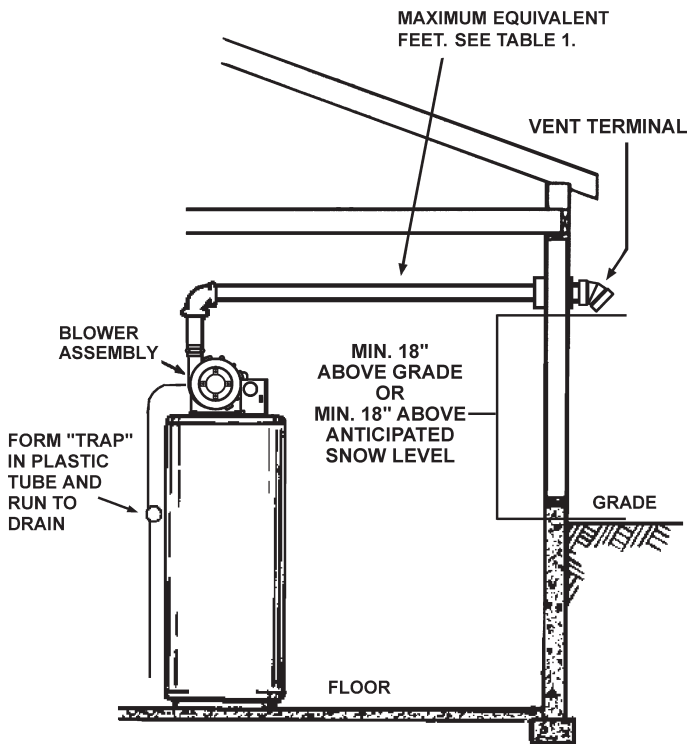
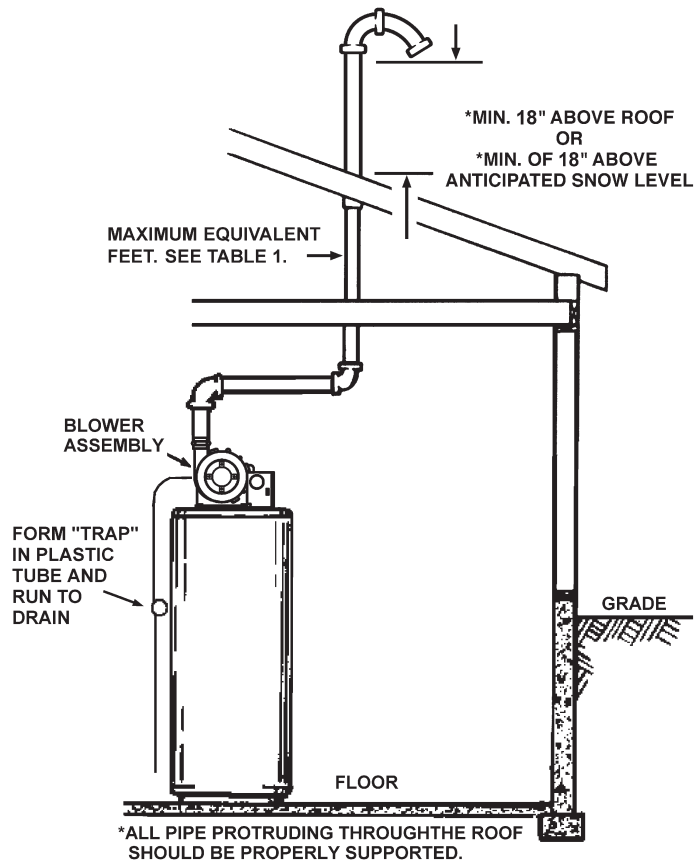

FIGURE 18.
FIGURE 19.
The first step is to determine where the vent pipe will terminate, see Figures 14, 18 and 19. The vent may terminate through the roof as shown in Figure 19 or through a sidewall as shown in Figure 18.
The water heater must be connected to a grounded metal, permanent wiring system; or an equipment grounding conductor must be run with the circuit conductors and connected to the equipment grounding terminal or lead on the water heater, see Figure 18.
1. Vent Termination must extend a minimum of 18 inches (46 cm) above roof or 18 inches (46 cm) above the anticipated snow level to prevent blockage of the vent termination, as shown in Figures 18 and 19.
2. The venting system shall terminate at least four (4) feet (1.2 m) from or one (1) foot (30 cm) above any gable, dormer or other roof structure with building interior access; i.e., vent, window, etc.
3. The venting system shall terminate three (3) feet (91 cm) above any forced air inlet located within ten feet (3.0 m).